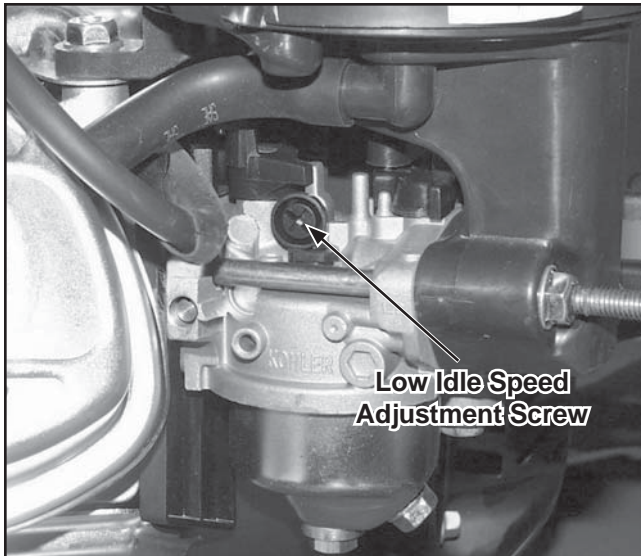

Figure 11-92. Low Idle Speed Adjustment Screw.
1. Set the engine up on a test stand. Check gas and oil levels. Start the engine and run for 5-10 minutes between idle and midrange. Adjust the carburetor settings as required. Low idle speed should be set to 1800 RPM (± 150) or application specifications. See Figure 11-92.